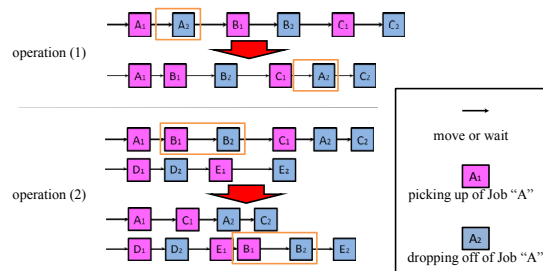
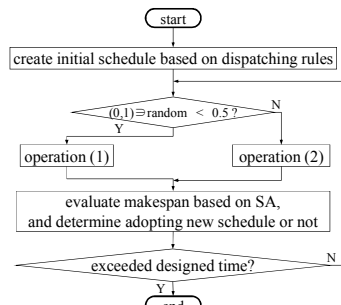
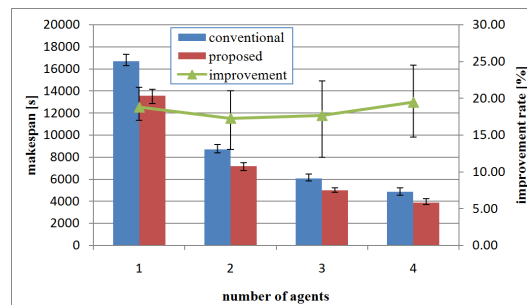

Fig. 3 Operation
Fig. 2 Flowchart
Fig. 4 Simulation result
It is impossible that this problem demands the close most suitable solution in real time, and desired calculating fast in about several minutes. We solve this problem using simulated annealing which perform either operation of the following (1) or (2) and repeat the improvement of the schedule (Fig.2). (1) Changing the processing order of transportation task as shown figure 3(1). (2) Changing the agent of transportation and the processing order as shown figure 3(2). The simulation results indicate the effectiveness of the proposed method (Fig.4).